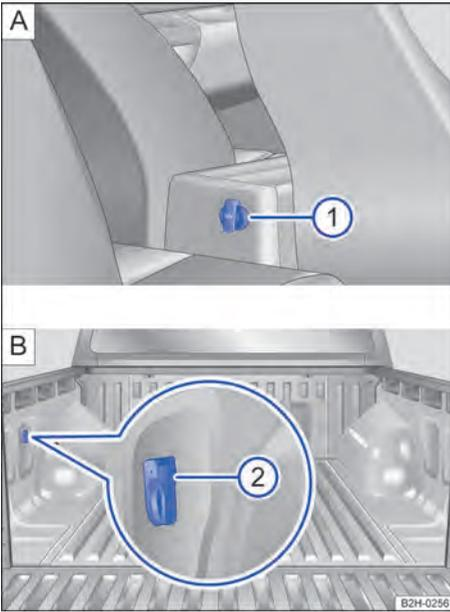

Fig. 127 12-volt sockets in the rear.
- In the rear centre console → Fig. 127 ①.
- In the left-hand side panel of the loadbed → Fig. 127 ②.